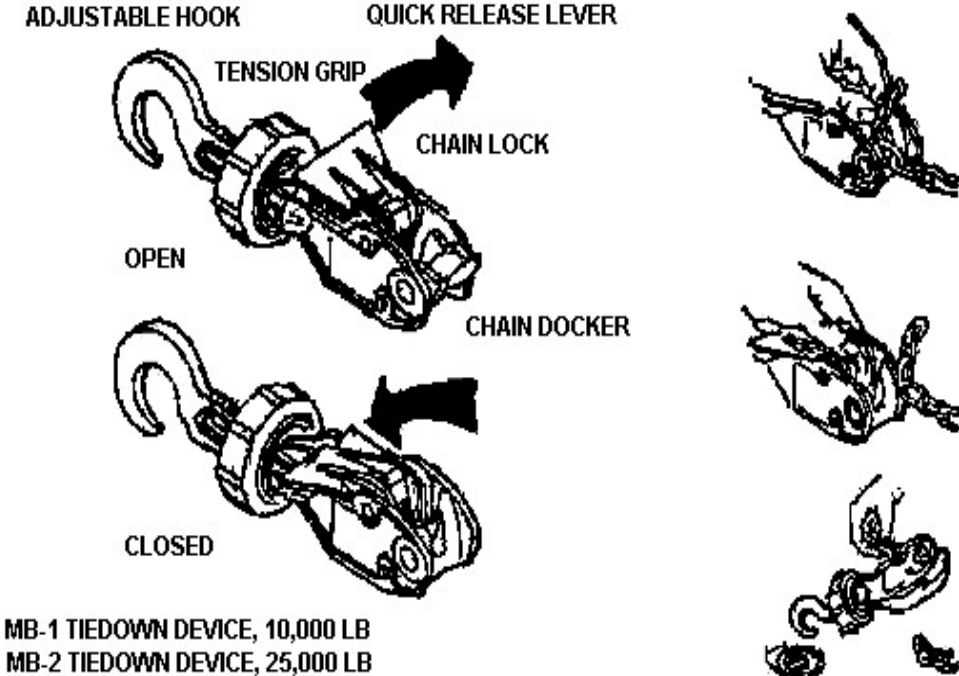

Figure 3-13
4. Install tie-down devices (see Figure 3-13).